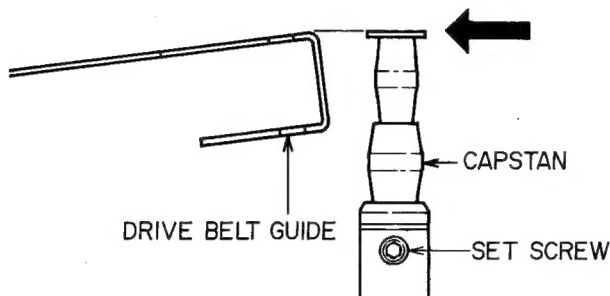

Fig. 1
- 3) Bring the Drive Belt Guide and Capstan to the same height, then tighten set screw. (See Fig. 1)